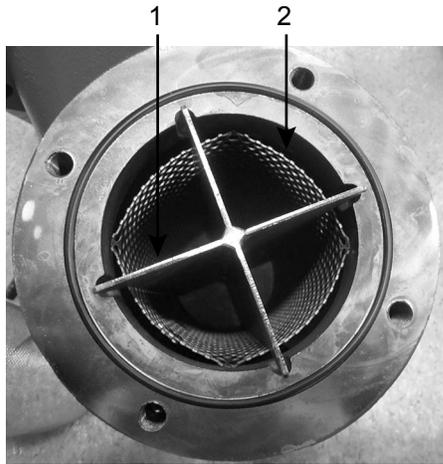

Figure 3: Re-install the strainer
8. Re-install the orifice cylinder (strainer) into the body, rotating from the original position so that the orifice cylinder (strainer) indentation marks are not aligned with the cast notches on the body. Do NOT align the orifice cylinder (strainer) with weld spots in the notches. See Figure 3.